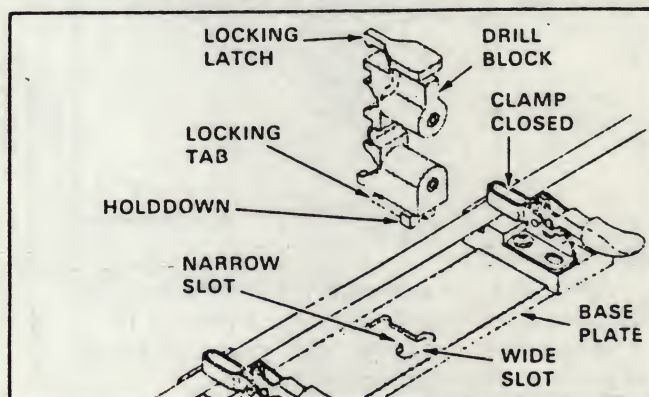

Fig. 6
3. Orient the drill block so the cable seats are toward the cable and the holddown is aligned with the wide slot in the base plate. See Figure 6.
4. Insert drill block holddown into wide slot, then slide holddown into narrow slot. Rotate top half of drill block down until locking latch engages locking tab on bottom half of drill block. See Figures 6 and 7.